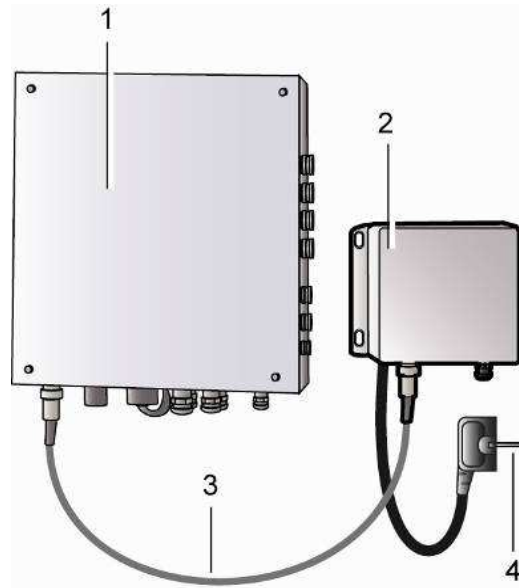

Figure 13-2: the power supply unit.
Connect the control unit (Figure 13-2, 1) to the power supply unit (2) with the provided cable (3), and to the single-phase 230 V AC mains 80 VA 50 Hz (4).